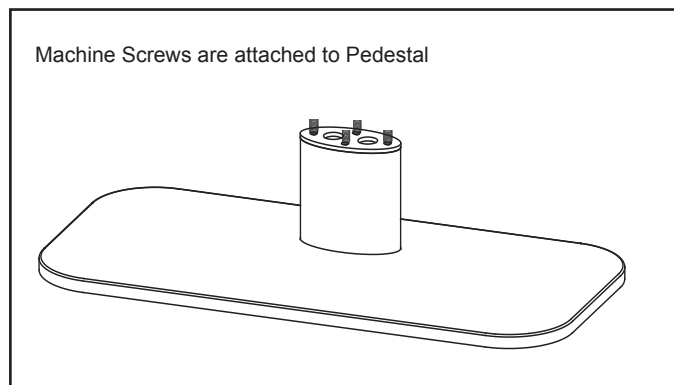

Figure 4.8 Pedestal Machine Screws
- Align the location tabs and holes in the pedestal with the threaded inserts in the firebox. See Figures 4.8 & 4.9.